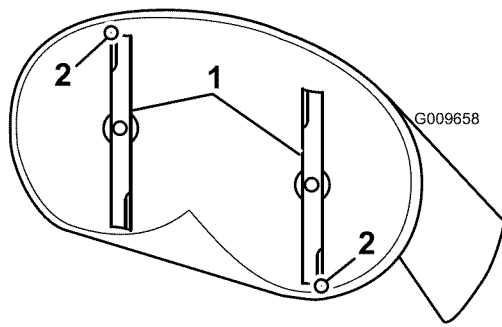
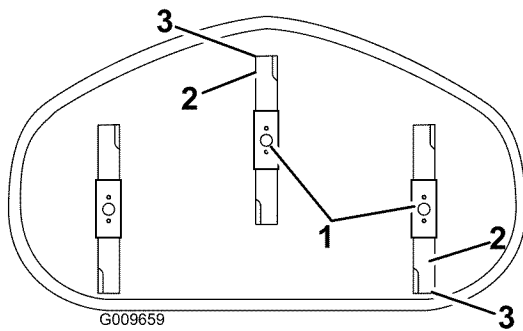

Figure 51
Figure 52
4. Carefully rotate the blades so they are facing front to rear (Figure 51 and Figure 52).
5. Measure from the tip of the front blade to the flat surface and the tip of the rear blade to the flat surface (Figure 51 and Figure 52). If the front blade tip is not 1/16-5/16 inch (1.6-7.9 mm) lower than the rear blade tip, adjust the front locknut.
8. After adjustment, check the front-to-rear slope again. Continue adjusting the nut until the front blade tip is 1/16-5/16 inch (1.6-7.9 mm) lower than the rear blade tip (Figure 51 and Figure 52).